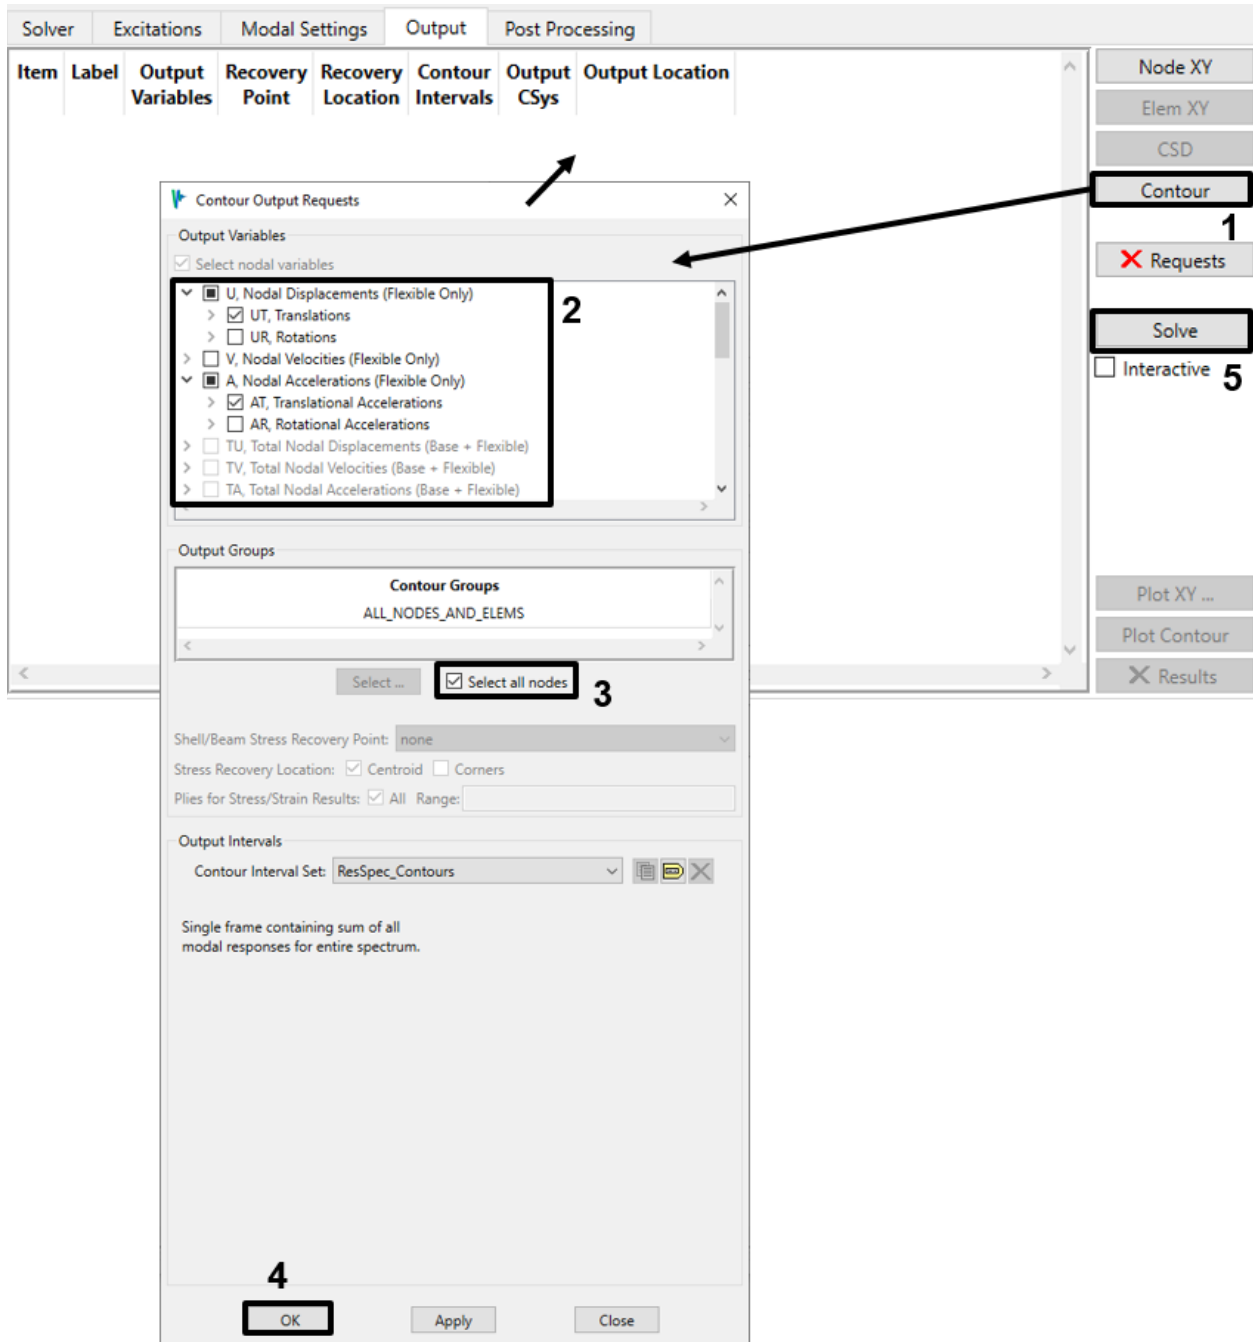

Figure 4-83. Request translational displacements and accelerations at all nodes.
8. Go to the *Output* tab. Only contour output is available for response spectrum analysis, so create a contour request for displacement and acceleration (*UT*, *AT*) at all nodes (Figure 4-83). Note that the **Select nodal variables** toggle is checked and inactive; the normal modes solve did not request any elemental data. Solve the event but do not plot the contours at this time.